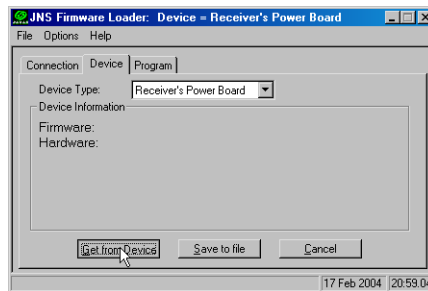

Figure 4-17. Set Device Type
11. Select the **Device** tab and set the Device Type as Receiver's Power Board (Figure 4-17).
12. Click **Get from Device** for device information (Figure 4-17).